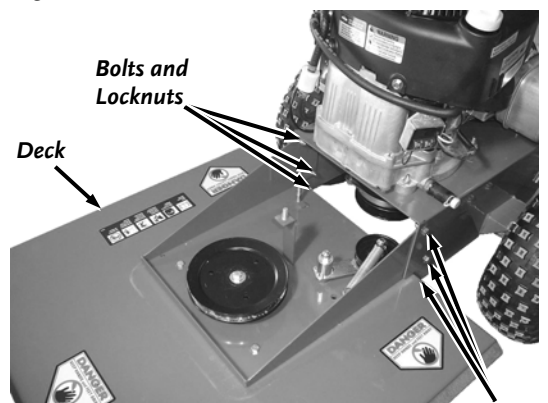

Figure 11
2. Remove the six Bolts and Locknuts that secure the Deck with two 1/2" Wrenches and remove the Deck (**Figure 11**).